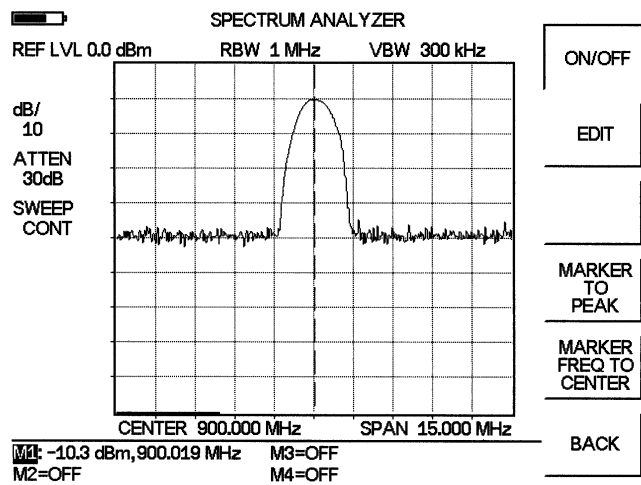

Figure 4-13. Activated normal marker
Step 14. Press the **MARKER TO PEAK** soft key to set marker M1 to the highest point on the trace (Figure 4-13).